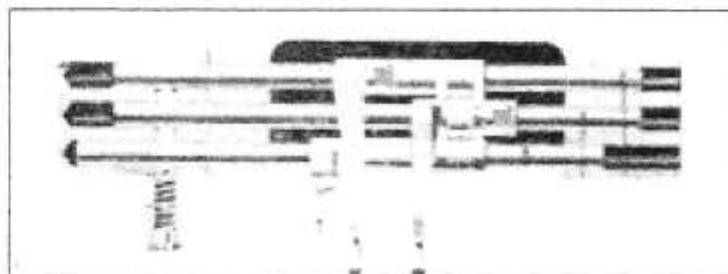

Fig.14
The simultaneous selection of more than one gear is prevented by an interlock system which is, quite literally, all balls; in fact no less than five of them. Three are spring loaded into notches in the selector rods to act as detents to retain a gear in engagement once selected, and two which assure the interlocking lie in a horizontal cross drilling, one between the middle selector shaft (for 1st and 2nd), and the outer selector (for 3rd and 4th), the other between the middle selector and the innermost one (for reverse), see Fig.14.
B.4.1- Installing an independent oil filler and dipstick If gearbox lubrication has been segregated, the oil level may be checked and made-up as required simply by removing the gearbox cover plate. However, it's much more satisfactory to drill and tap the oil filler boss for a plug incorporating a dipstick reaching to the floor of the antechamber as this enables the oil level to be checked after removing only the left hand floorboard. Fig.14. The necessary drilling and tapping may be done with the gearbox in situ after the oil has been drained, the inside of the antechamber smeared with grease to catch the swarf, and a partition of plastic or thick paper stuck in place to stop any swarf getting into the box itself.